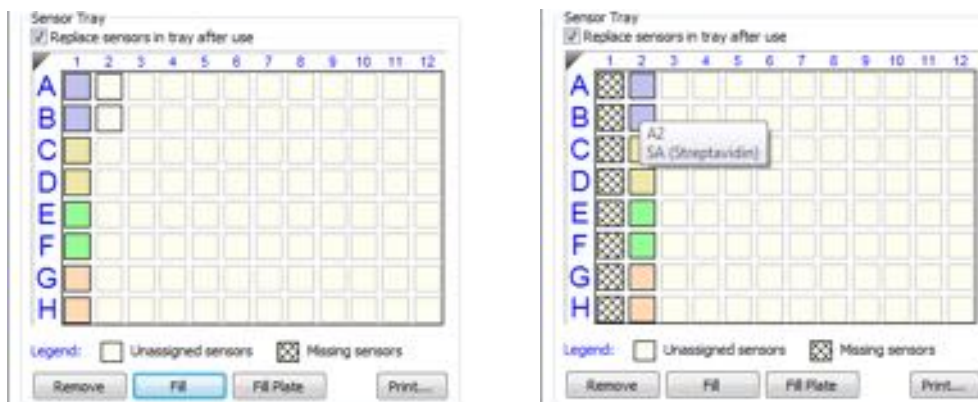

Figure 8-47: Changing Biosensor Location (Method 1)
1. In the **Sensor Tray Map** (see Figure 8-47), select the locations you do not want to use and click **Remove**. Or, right-click the selection and select **Remove** (Figure 8-47 left). The software automatically selects the next available biosensor locations in the tray (Figure 8-47 right).